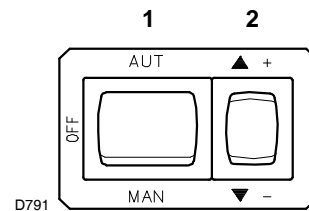
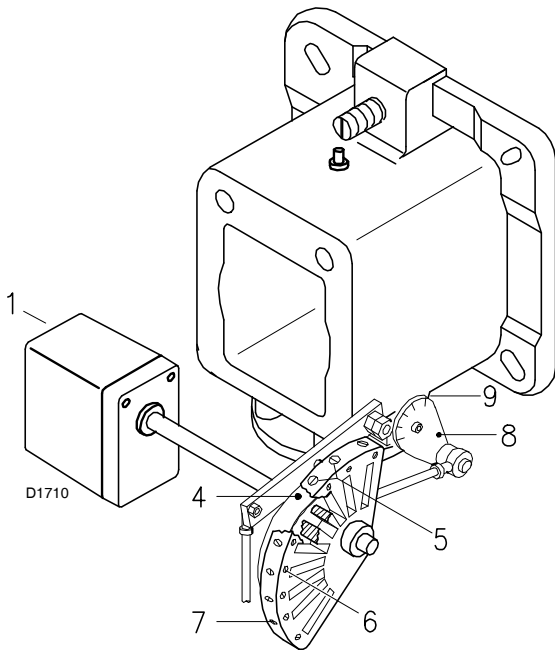
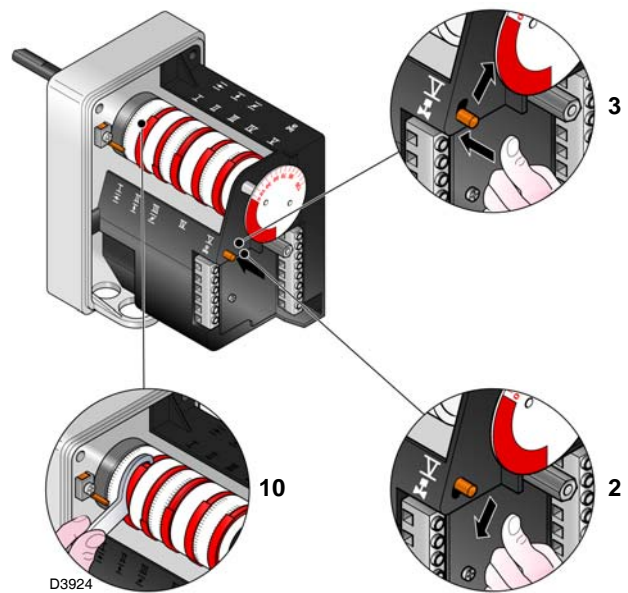

Fig. 36
Fig. 37
Fig. 38
Close the control devices and set switch 1)(Fig. 36) to “MAN”.
In the above instructions we left the burner running in MIN. output operation. Now press button 2)(Fig. 36) “increase output” and keep it pressed until the servomotor has opened the air gate valve and the gas butterfly valve.
Progressively adjust the end profile of cam 4)(Fig. 37) by turning the screws 7).
Key Fig. 37
Press button 2)(Fig. 36 at page 29) “output reduction” until the servomotor has closed the air gate valve and the gas butterfly valve to 30° (factory set adjustment).
- If this value is to be reduced, decrease the angle of cam III (Fig. 38) slightly by proceeding a little at a time until the angle is changed from 30° to 28° - 26°....
- If it has to be increased press the button “output increase” 2)(Fig. 36 at page 29) (i.e. open the gas butterfly valve by 10-15°), increase the cam III angle (Fig. 38) with small successive movements, i.e. take it from angle 30° to 32° - 34°.... Then press the button “output decrease” until the servomotor is taken to the minimum opening position and measure the gas delivery.
In order to adjust cam III, especially for fine movements, the key 10)(Fig. 38), held by a magnet under the servomotor, can be used.
Progressively adjust the starting profile of cam 4)(Fig. 37) by turning the screws 5).
Press the key 2)(Fig. 36 at page 29) “output increase” a little so that the servomotor turns by about 15°.
- Switch off the burner using switch 1)(Fig. 36 at page 29), at OFF position;
- disengage the cam 4)(Fig. 37) from the servomotor, by pressing the button 3)(Fig. 38) and moving it to the right, and check more than once that the movement is soft and smooth, and does not grip, by rotating the cam 4) forward and backward by hand.
- Engage the cam 4) to the servomotor again by moving the button 2)(Fig. 38) to the left.
- Finally fix the adjustment by turning the screws 6)(Fig. 37).